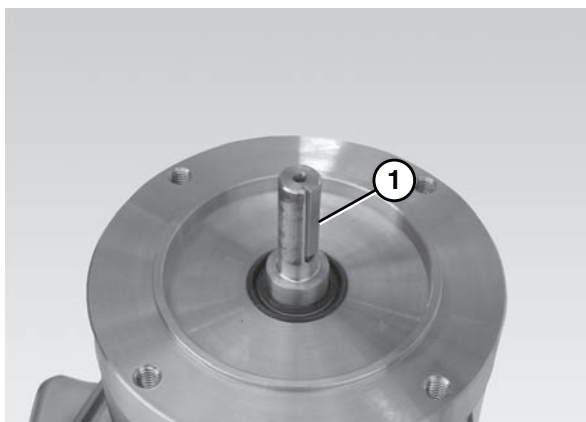

**Figure 6**
4. Attach the lower gearhead mounting bar (Figure 6, item 1) to the motor mounting bracket (Figure 6, item 2).